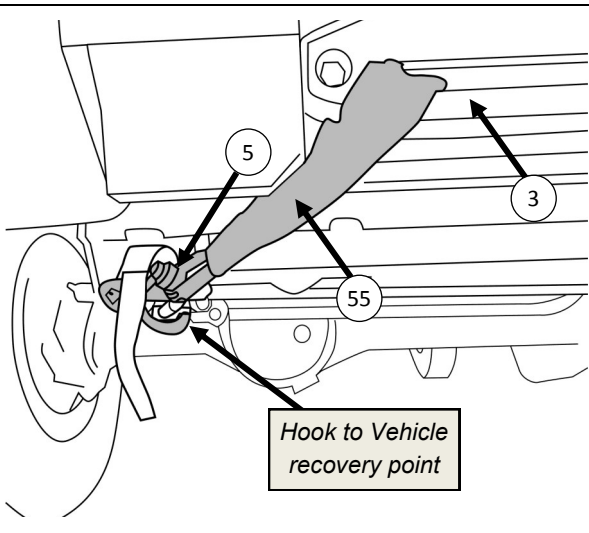

Figure 65: Stow Lightweight Hook
- To stow hook for the lightweight winch, route rope across Hawse Fairlead (Item 3) as shown in Figure 65 by releasing clutch and then powering up the Winch (Item 1).